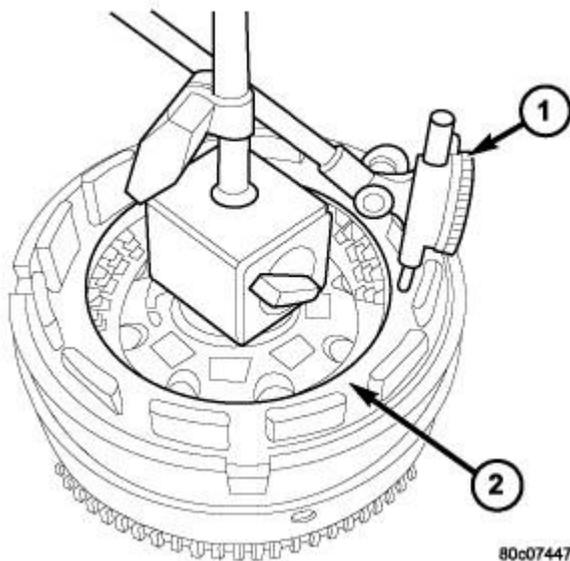

Fig. 114: Measuring OD Clutch Clearance
24. Mount a dial indicator (special tool #C-3339A, Set, Dial Indicator) (1) on the input clutch hub and zero the indicator against the OD/reverse pressure plate (2). Refer to **Fig. 114**. Apply 20 psi of air pressure to